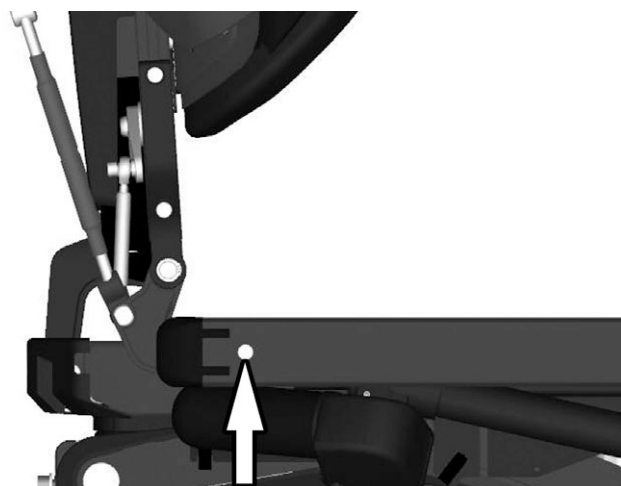

Figure 84. The rear attachment screw of the UniTrack rail.
4. Refit the rear attachment screw of the UniTrack rail on the left and right hand side of the seat. See fig. 84.